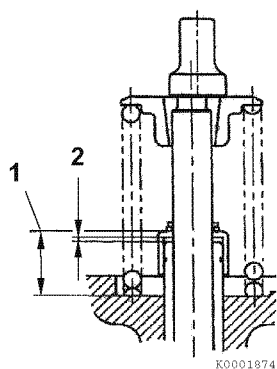

Figure 6-27
2. Measure the distance (1, **Figure 6-27**) from the cylinder head to valve stem seal to ensure proper clearance (2, **Figure 6-27**) between the valve guide and seal. See *valve stem seal projection specification on page 6-5*.